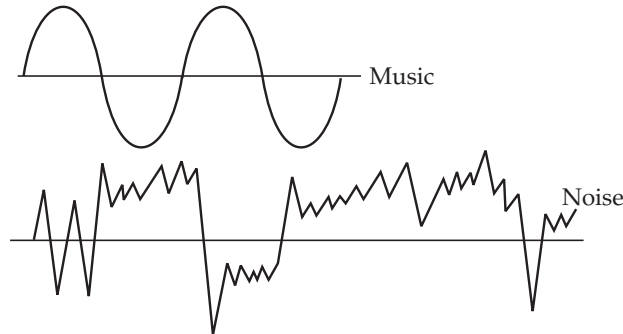

Fig. 1.32
(d) Musical tones have Simple Harmonic Motion (SHM) with regular amplitude waves. A musical tone with one frequency can be represented by Fig. 1.32 (a).
(3) **Noise.** Noise is that, which gives unpleasant (irritating) sensations to ears. They are irregular amplitude waves [Fig. 1.32 b)]. Noise causes fatigue and pains in ears and hence the listener avoids it.